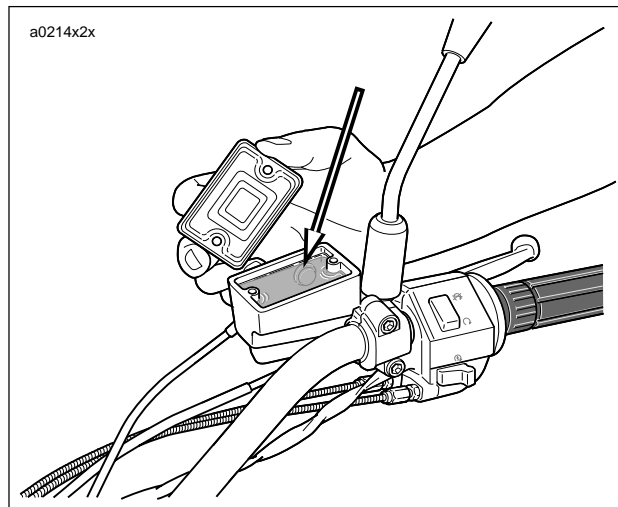

Figure 2-36. Brake Fluid Level
6. See Figure 2-36. With the master cylinder in a level position, add **D.O.T. 4 BRAKE FLUID**. Bring fluid level to within 0.125 in. (3.2 mm) of molded boss inside front master cylinder reservoir.
7. See Figure 2-36. Verify proper operation of the master cylinder relief port.